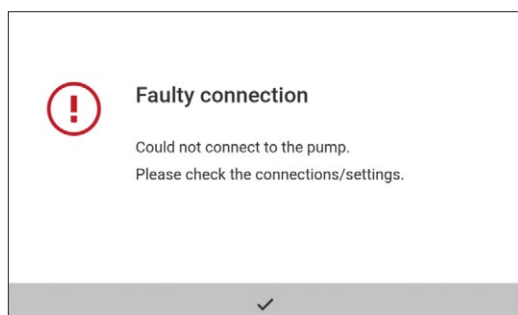

Figure 13: Error message displayed if the peristaltic pump cannot be addressed by the software.
4. Start a filling program or a Mycap® experiment to check if the pump is addressed properly by the balance. If the pump can be addressed by the balance the selected program starts and follows the workflow. If the connection to the pump cannot be established the following error message is displayed (see Figure 13):